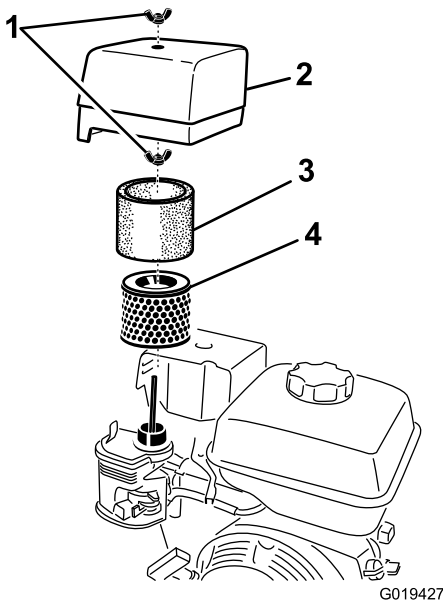

Figure 13
3. Remove the nut that secures the cover (Figure 13).
6. Remove the foam and paper elements from the base (Figure 13).
7. Remove the foam element from the paper element (Figure 13).